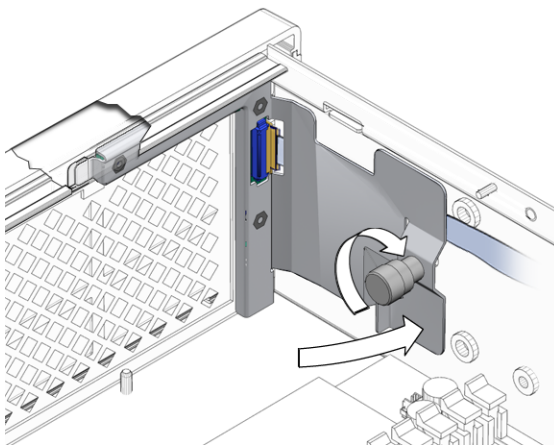

FIGURE 5-27 Swinging the LED Board Back Against the Chassis
4. Swing the LED board right to the chassis and tighten the thumbscrew (**FIGURE 5-27**).